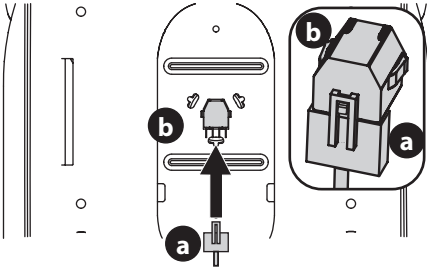

Figure 5
- If necessary, securely connect the seat switch wiring harness (a) to the seat switch (b) (Figure 5). Secure excess wire away from pinch points before continuing.